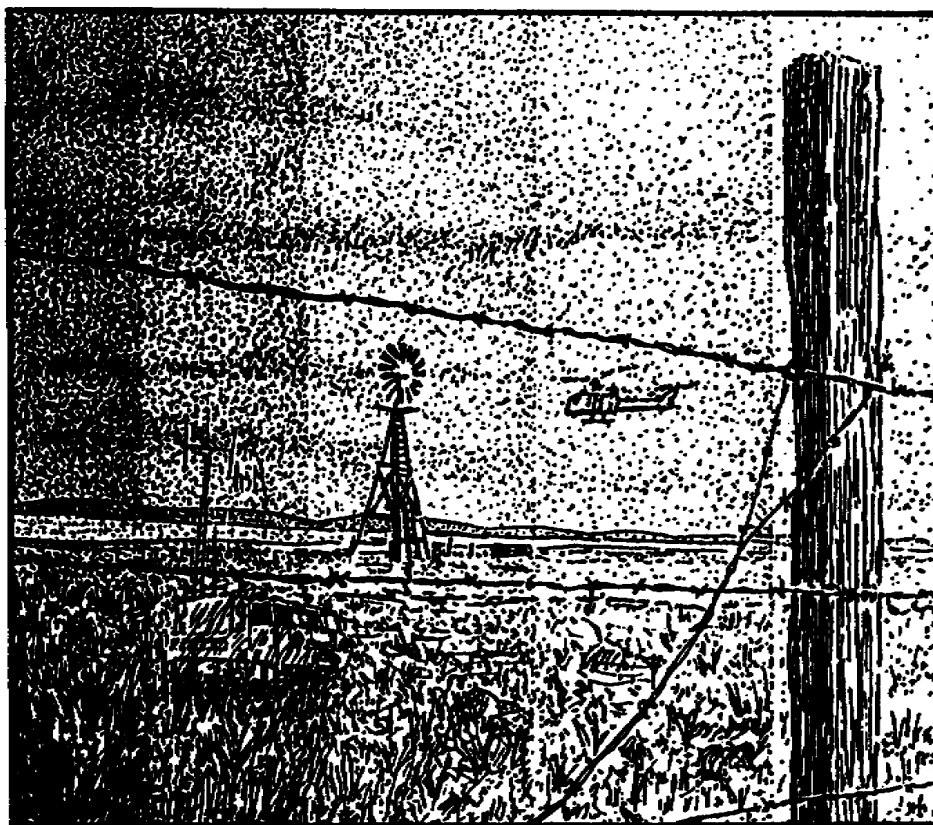

Figure 2-8. Test print
b. Process the print normally. After the test print has been in the fixer for a couple of minutes, it may be removed, rinsed in fresh water, and inspected under white light to determine which of the test exposures is correct. If none of the exposures appear to be normal, the correct exposure may fall between two of the exposures. For example, the six-second exposure may appear too light and the eight exposure may appear too dark. This would indicate that you should use seven seconds of exposure time. A good example of a test print is show in Figure 2-8.